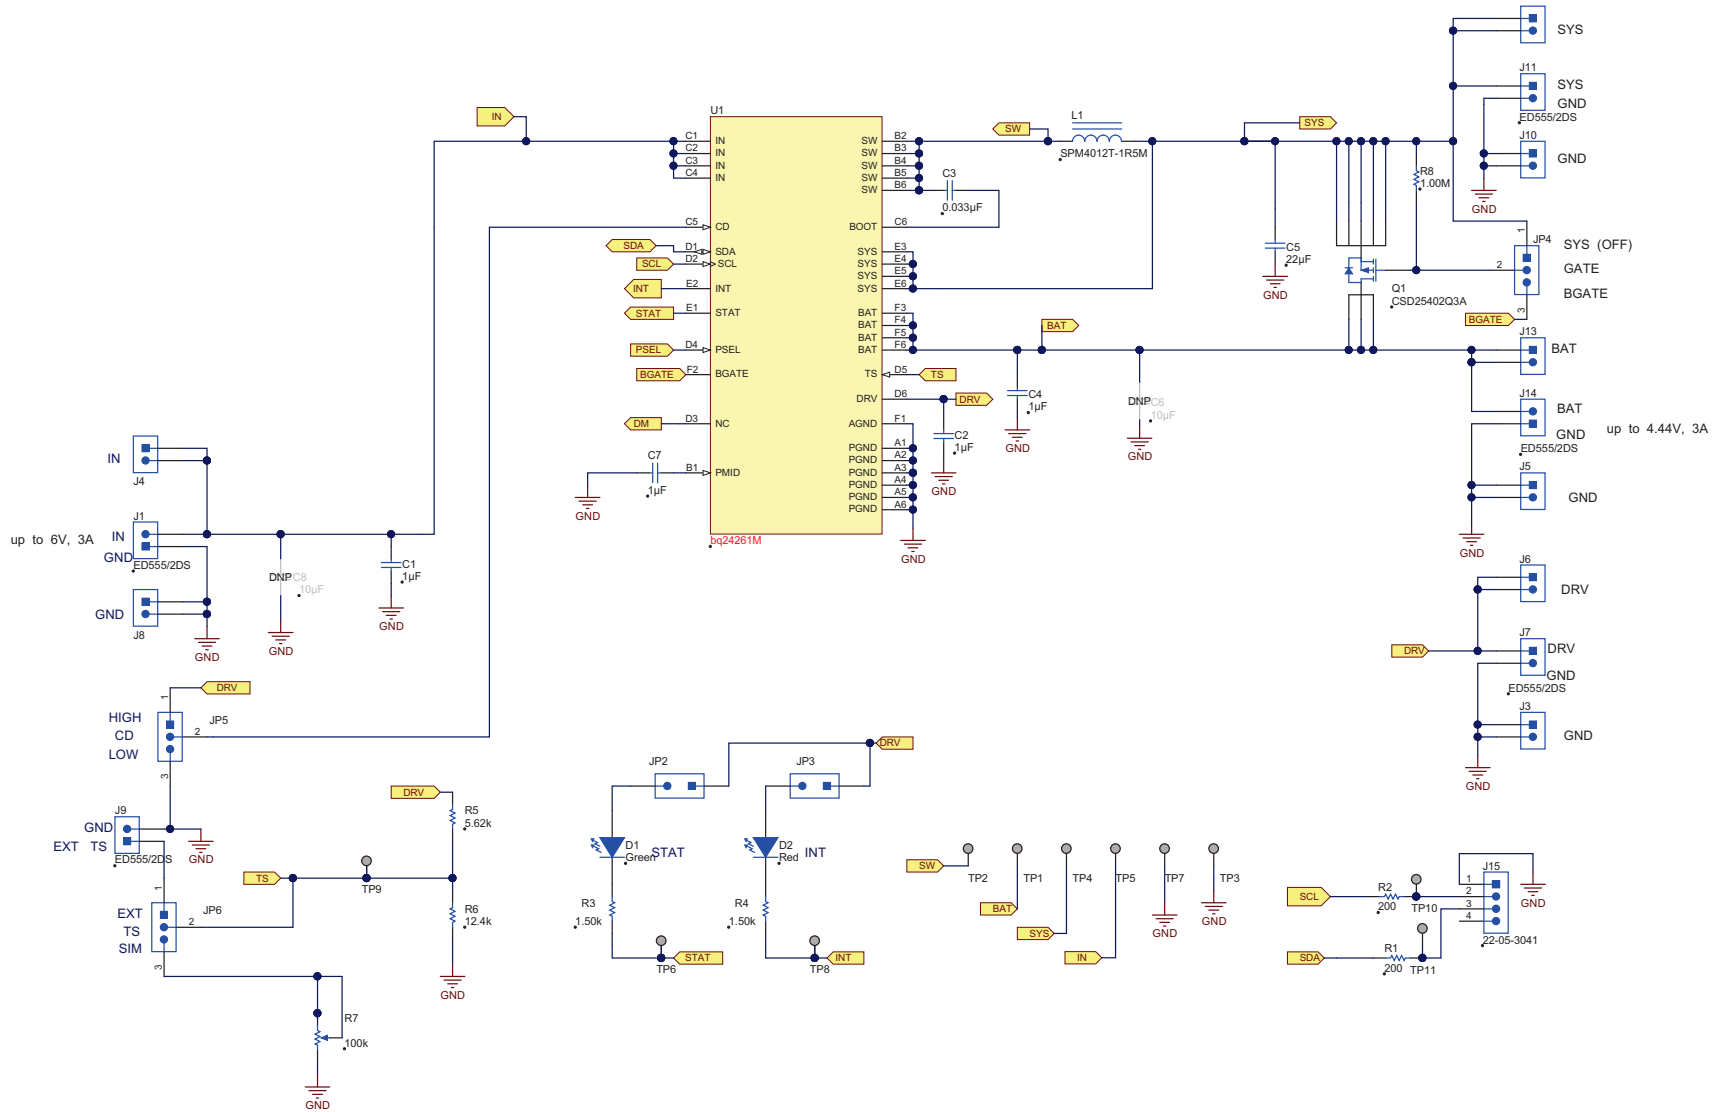

Figure 1. bq24261MEVM Schematic
Figure 1 illustrates the bq24261M schematic.
3. If BAT_Load as shown in Figure 1 is used, connect Power Supply #2 (PS #2) set to approximately 3.6 V to the input side (PS #2+/-) of BAT_Load, then turn off PS #2.